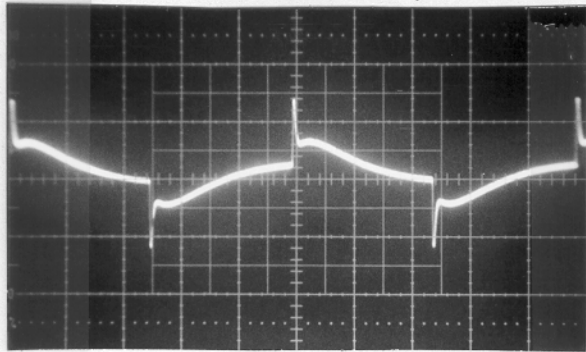

Fig. 1. Tones Center, Filters Off.
- 4) Set RF2 switches so LED's are off - compare to Fig. 1.